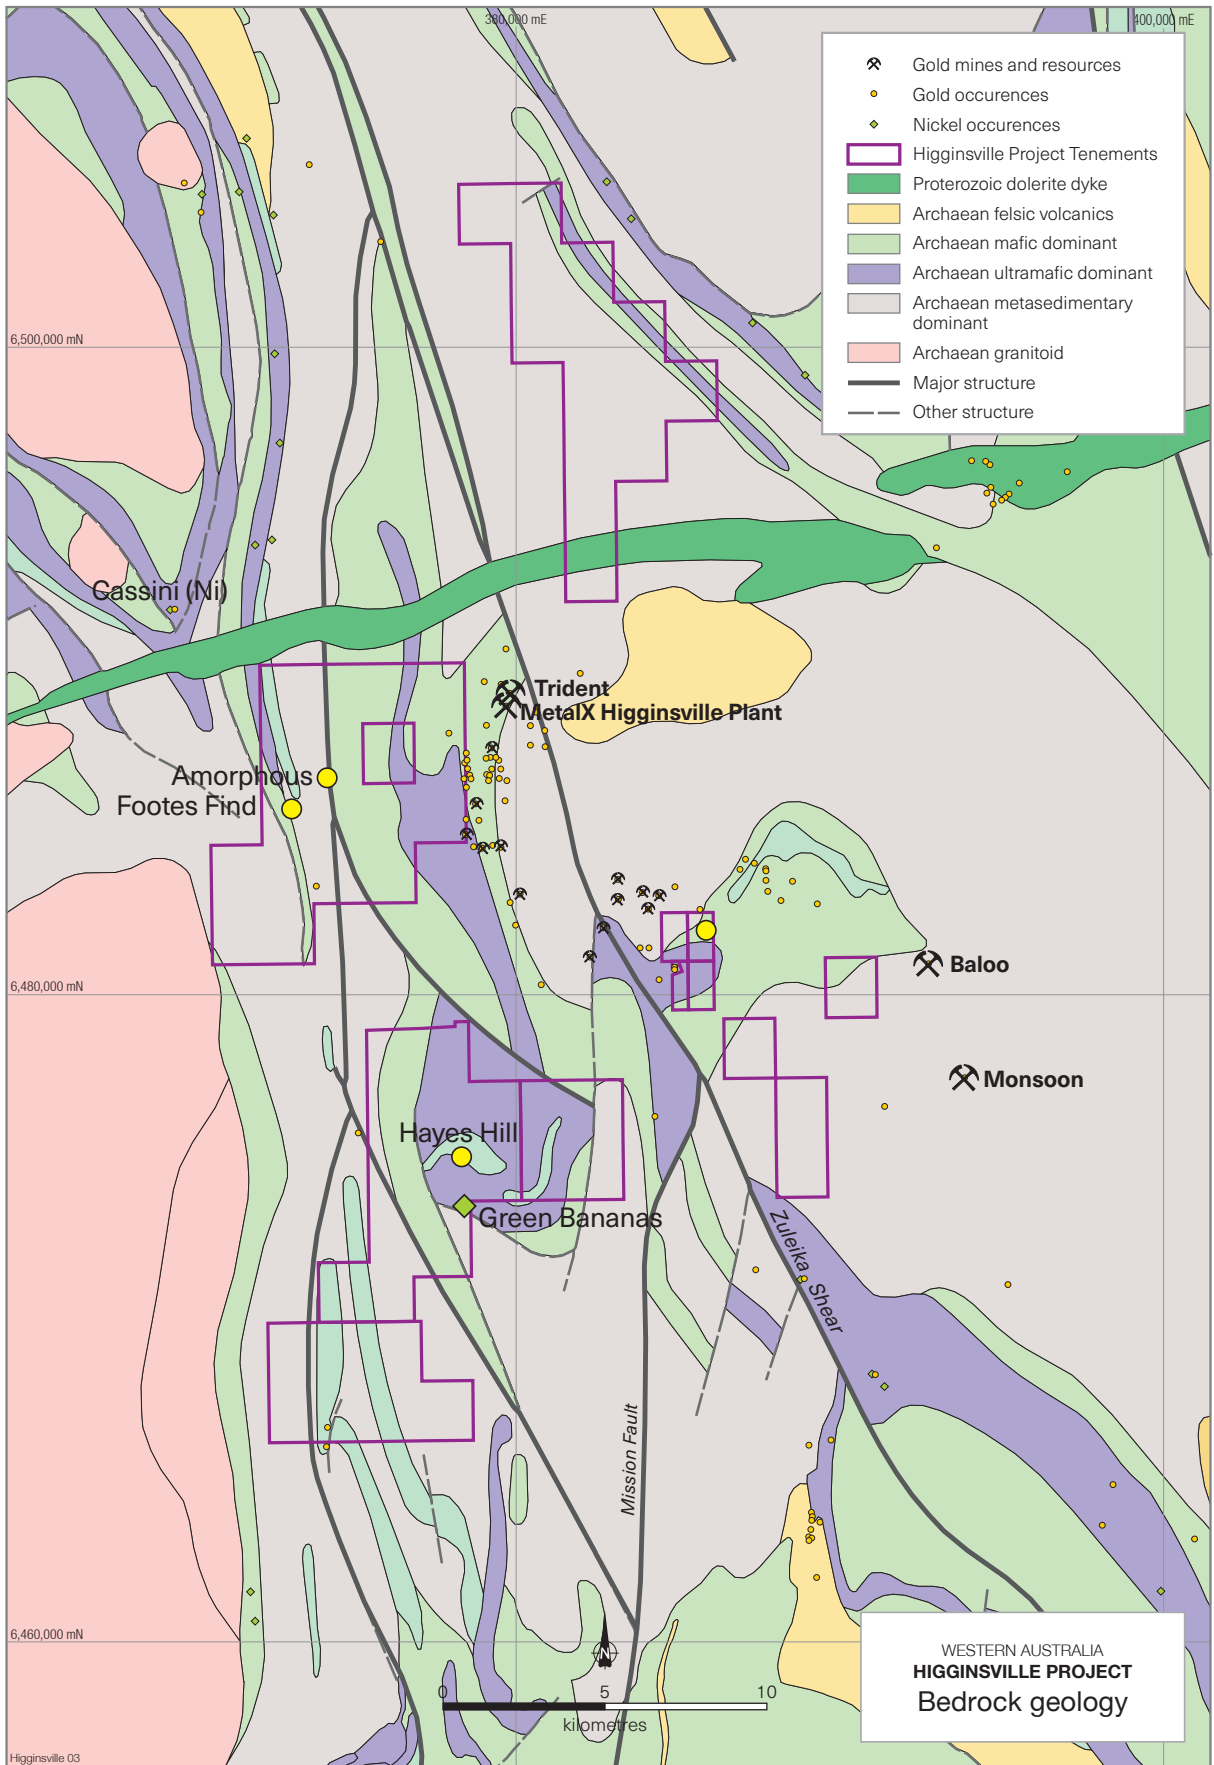

Figure 1
- Nickel targets are located south of Higginsville near the west shore of Lake Cowan. The main target is known as Green Bananas (Figure 1).
- These targets are prospective for massive nickel sulphides such as those discovered by Mincor Resources NL nearby at Cassini and warrant a follow-up geophysical (EM) survey.
Amorphous and Footes Find are located approximately 5km along a sealed road from an operating mill (Figure 1) and present an excellent opportunity for a meaningful, near-term exploration outcome.
Nickel targets within the Higginsville tenement package are called Hayes Hill and Green Bananas. These targets are located south of Higginsville (Figure 1) near the west shore of Lake Cowan. The targets have been defined by auger drilling and are co-incident with expected magnetic signatures.